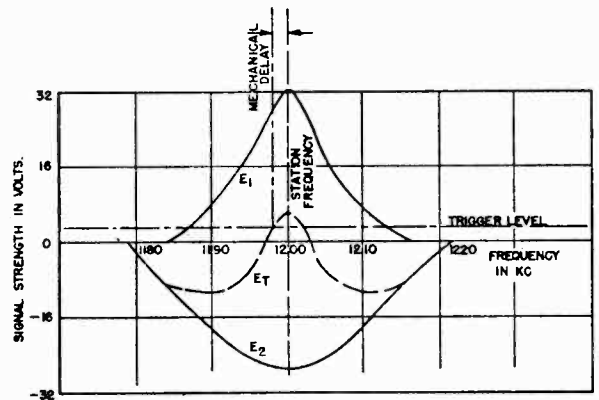

Fig. 8
The purpose of the tuner detection circuit is to take input signal voltages of varying strength and trigger the relay tube so that the tuner will stop accurately on the station frequency. A positive voltage developed by the signal on the grid of the D.C. Amplifier Section causes the tuner to trigger and stop. This is accomplished by using the Detector Diode and Bucking Diode to develop voltages of opposite polarity (E_1 and E_2) between grid and ground of the D.C. Amplifier Section of the Trigger Tube, thus effectively applying the algebraic sum of these voltages (E_t) to this signal grid. (Note that contacts #2 and #4 of the relay are open.) These relative voltages plotted against frequency are shown in Fig. 8 using a station frequency of 1200 KC. Notice that the response curve of the voltage (E_2) across the 1.5 megohm resistor (17) is broader and not as large as the voltage (E_1) developed across the 330,000 ohm (22) detector load. This is because the detector voltage has benefit of one more tuned circuit which gives the narrower curve. Also there is a positive voltage appearing at the cathode of the Bucking Diode which will have the effect of lowering the voltage (E_2) across the 1.5 megohm resistor (17) because it will introduce a delay before the Bucking Diode will begin to conduct. This delay can be controlled by the Delay Adjustment in the cathode of the Bucking Diode. This Delay Adjustment also controls the trigger level so